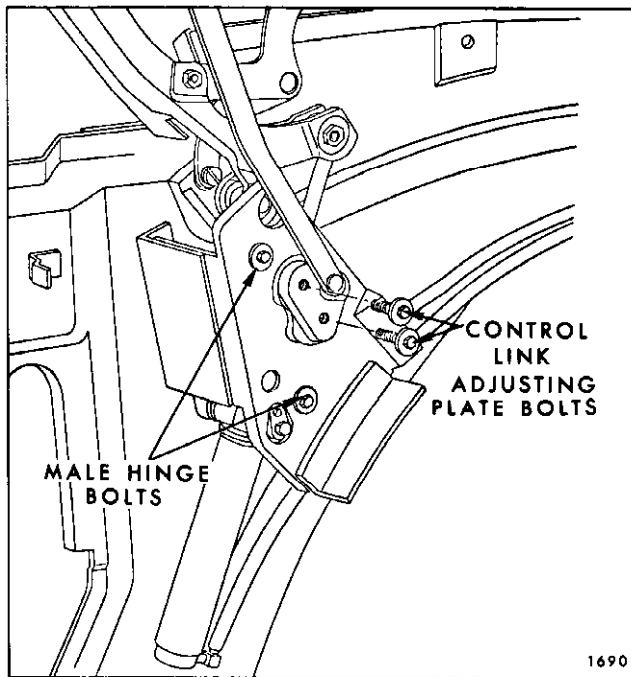
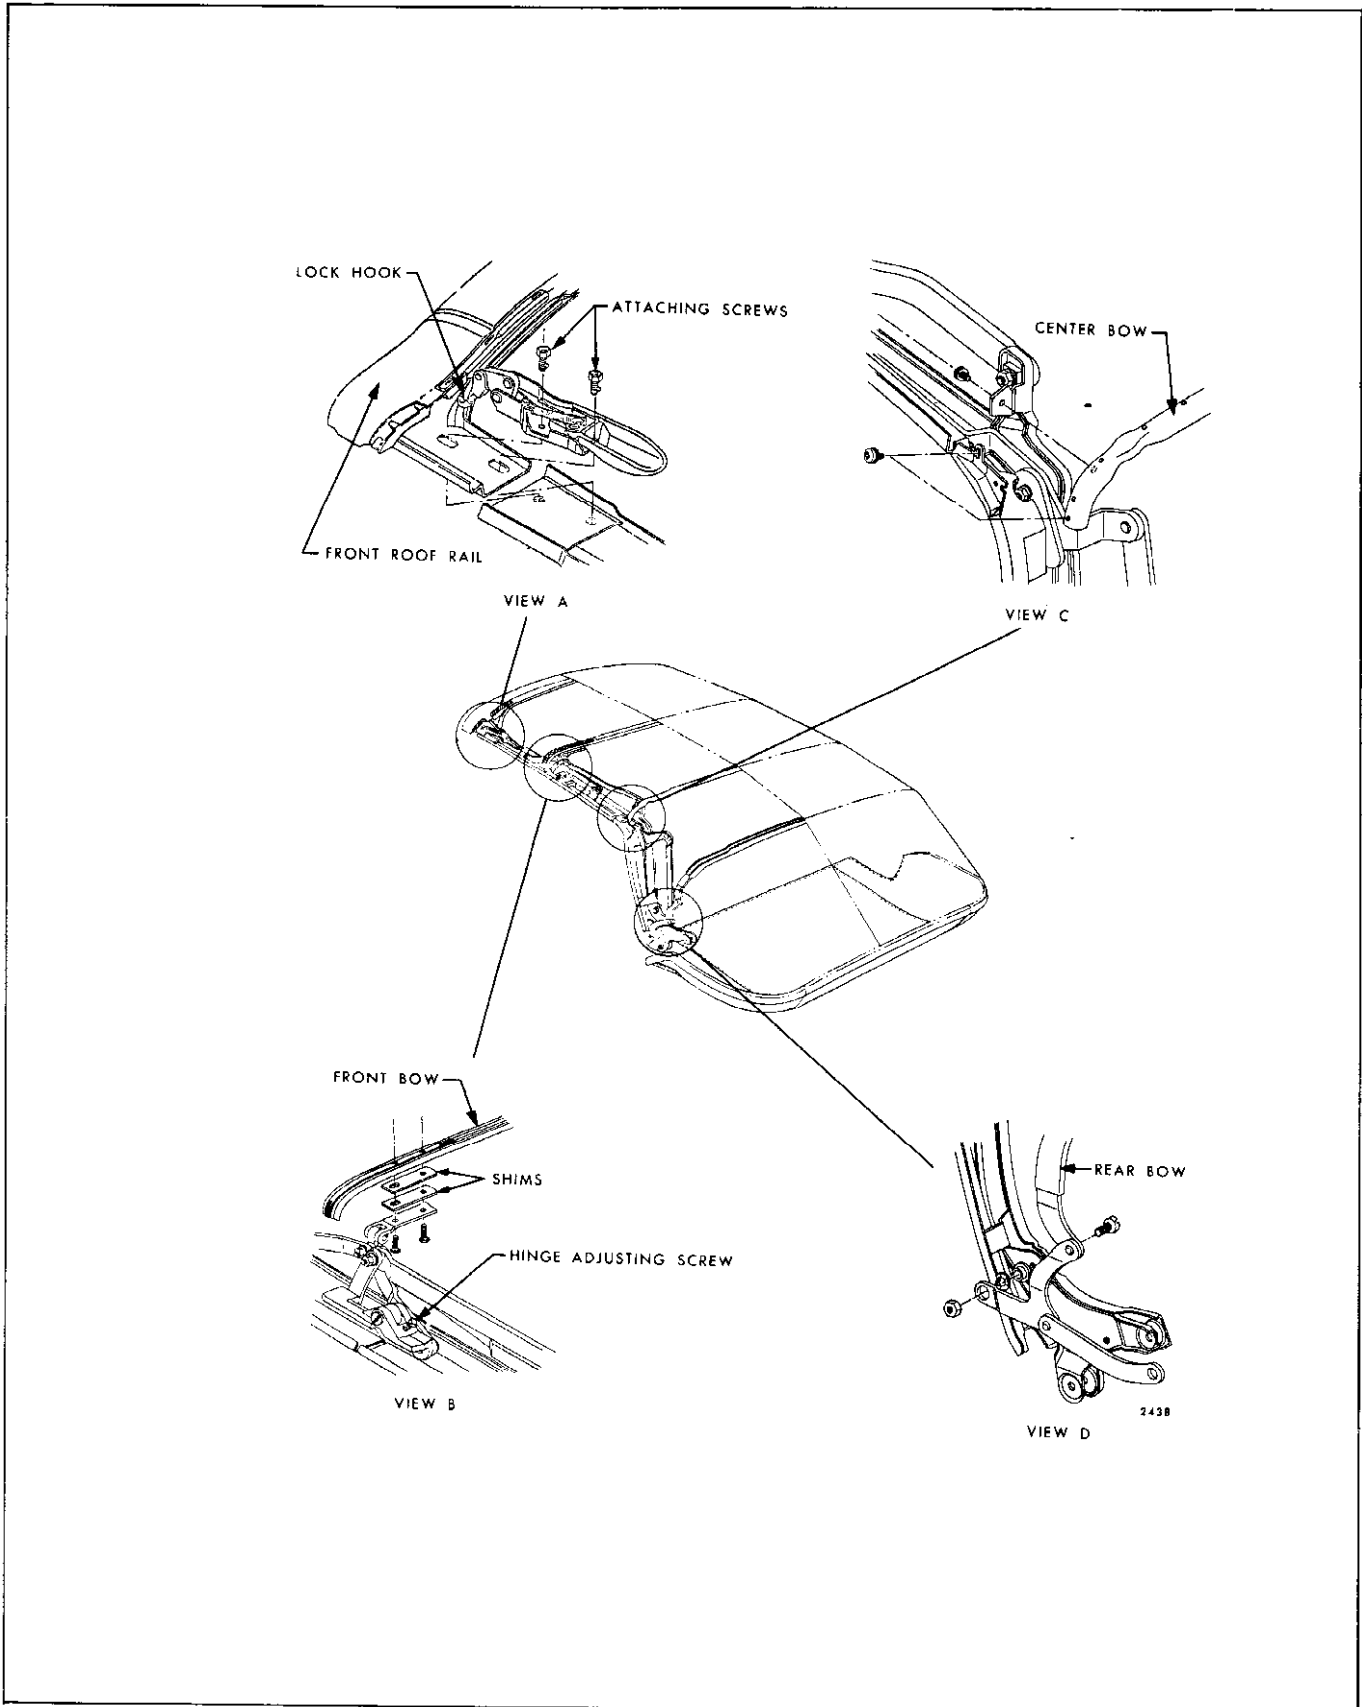

Fig. 13-81 — Male Hinge Attachment
Fig. 13-82 — "B and C" Body Folding Top Adjustments
- c. Loosen two bolts securing control link adjusting plate sufficiently to permit adjustment of plate (Fig. 13-81).
- b. Loosen male hinge assembly and control link attached bolts (Fig. 13-81).
- b. Loosen male hinge assembly attaching bolts (Fig. 13-81).
| C. Top travels too far forward. | <ul style="list-style-type: none"> 1. Front roof rail misaligned. 2. Male hinge assembly misaligned. | <ul style="list-style-type: none"> Adjust front roof rail rearward (Fig. 13-82). Adjust male hinge assembly rearward (Fig. 13-81). |
| D. Top does not travel forward far enough. | <ul style="list-style-type: none"> 1. Front roof rail misaligned. 2. Male hinge assembly misaligned. | <ul style="list-style-type: none"> Adjust front roof rail forward (Fig. 13-82). Adjust male hinge assembly forward (Fig. 13-81). |
| E. Side roof rail rear weatherstrip too tight against rear of rear quarter window. | 1. Male hinge assembly misaligned. | Adjust male hinge assembly rearward (Fig. 13-81). |
| F. Gap between side roof rail rear weatherstrip and rear of rear quarter window. | 1. Male hinge assembly misaligned. | Adjust male hinge assembly forward (Fig. 13-81) and/or shim side roof rail rear weatherstrip forward as required. |
| G. Side roof rail rear weatherstrip too tight against top of rear quarter window. | 1. Male hinge misaligned. | Adjust male hinge upward (Fig. 13-81). |
| I. Sag at front of center side roof rail joint. | 1. Control link adjusting plate misaligned. | Adjust control link adjusting plate downward (Fig. 13-81). |
| | 2. Center side roof rail hinge adjusting screw improperly adjusted. | Adjust screw counterclockwise (Fig. 13-82). |
| J. Front and center side roof rails bow upward at hinge joint. | 1. Control link adjusting plate misaligned. | Adjust control link adjusting plate upward (Fig. 13-81). |
| | 2. Center side roof rail hinge adjusting screw improperly adjusted. | Adjust screw clockwise (Fig. 13-82). |
| K. Folding top dust boot is difficult to install. | 1. Improper stack height due to misaligned control link adjusting plate. | Adjust control link plate rearward or forward as required (Fig. 13-81). |
| <p>L. Folding top dust boot fits too loosely.</p> | <ol style="list-style-type: none"> 1. Improper stack height due to misaligned control link adjusting plate. 2. Rear seat back assembly is too far rearward. | <p>Adjust control link plate forward (Fig. 13-81).</p> <p>Relocate rear seat back panel forward until dimension between upper rear edge of rear seat back to forward edge of pinch-weld finishing molding is $21-11/16" \pm 1/16"$. The dimension is measured at approximate centerline of body.</p> |
| <p>M. Top material is too low over windows or side roof rails.</p> | <ol style="list-style-type: none"> 1. Front roof bow improperly shimmed. 2. Excessive width in top material. | <p>*Install one or two 1/8" shims between front roof bow and slat iron (Fig. 13-82).</p> <p>If top is too large, detach binding along affected area, trim off excessive material along side binding as required; then hand sew binding to top material.</p> |
| <p>N. Top material is too high over windows or side roof rails.</p> | <ol style="list-style-type: none"> 1. Front roof bow improperly shimmed. | <p>*Remove one or two 1/8" shims from between front roof bow and slat iron (Fig. 13-82).</p> |